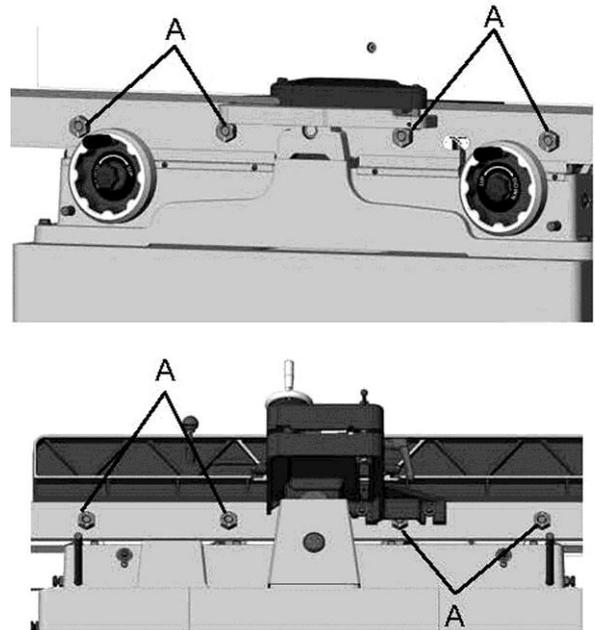

Fig. 14
1. Lightly loosen the gib adjusting screws (A), (Fig. 14). By loosening the lock nuts first, the set screws should be loose enough to move the table.